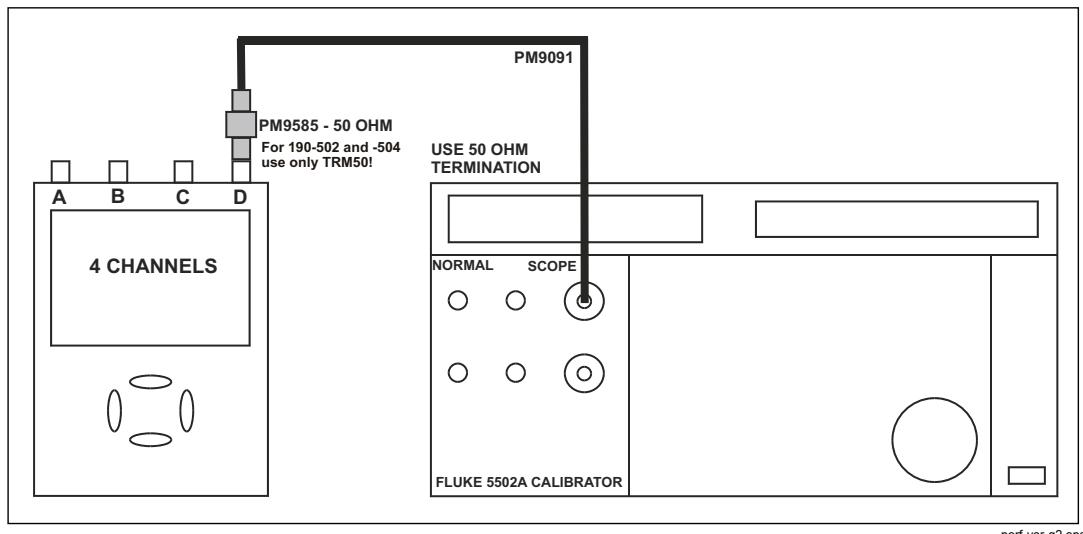

Figure 4-10. 5502A Scope Output to Test Tool Input D
1. Connect the Test Tool to the 5502A as shown in Figure 4-10.